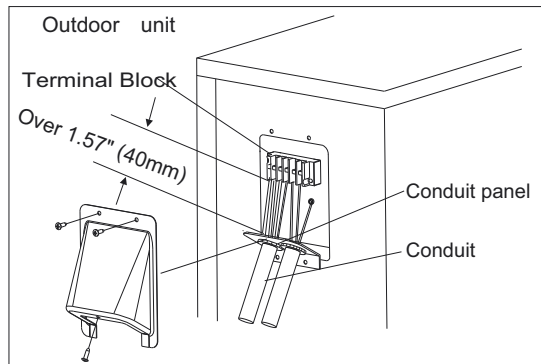

Fig. 12 – Field Wiring
5. Connect the conduit to the conduit panel (see Fig. 12).